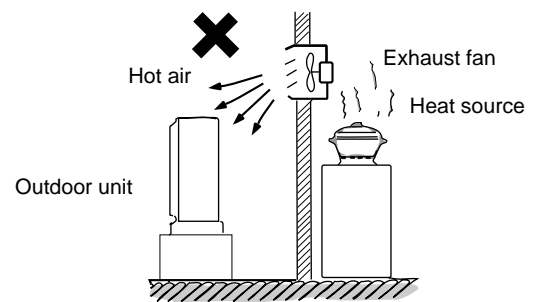

Fig.2
- heat source, exhaust fans, etc. (Fig. 2)